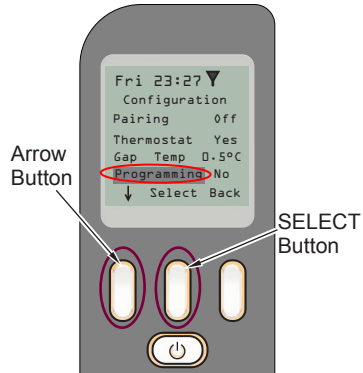

Figure 70 - Programming
**CONFIGURATION MENU ACCESS:** Press and hold the "OFF" button (⏻) on the remote control for 40 seconds. During this time, the screen will go blank for a few seconds, this is normal. See Figure 69. After 40 seconds, the configuration menu appears (see Figure 70).
Press the arrow button (↓) until Programming is highlighted (see Figure 70). If Programming has "No" next to it, press the "Select" button to highlight "No" (see Figures 70 and 71).